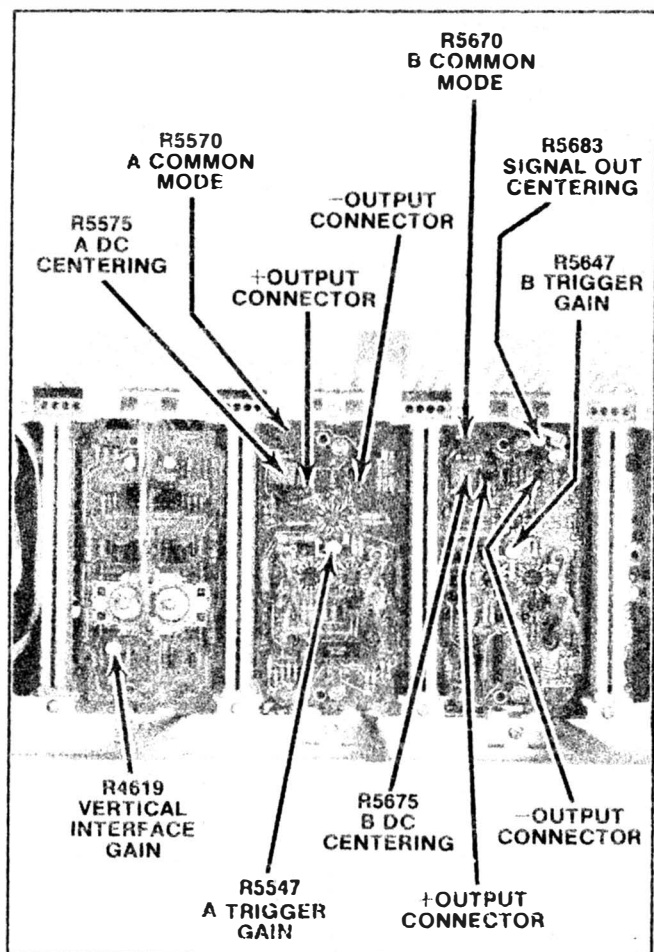

Fig. 5-4. Location of interface and trigger system adjustments (A and B Trigger Selector circuit boards.)
g. Adjust—A DC Centering, R5575, for a display dc level within 0.5 division (25 mV) of ground reference level in the LEFT, RIGHT, and ADD positions of the VERTICAL MODE switch. See Fig. 5-4 for adjustment location.
j. Connect the positive lead of the digital voltmeter to the plus (+) output connector on the A trigger board. See Fig. 5-4 for location.
m. Move the positive digital voltmeter lead from the plus output connector (+) to the minus (–) output connector on the A Trigger board. See Fig. 5-4 for location.
s. Adjust—A Trigger Gain, R5547, for a test oscilloscope display of six divisions of deflection between the center seven traces, within 0.3 division (300 mV within 15 mV). See Fig. 5-4 for adjustment location.
g. Adjust—B DC Centering, R5675, for a dc level within 0.5 division (25 mV) of ground reference level in the LEFT, RIGHT, and ADD positions of the VERTICAL MODE switch. See Fig. 5-4 for adjustment location.
j. Connect the positive lead of the digital voltmeter to the plus (+) output connector on the B Trigger board. See Fig. 5-4 for location.
m. Move the positive digital voltmeter lead from the plus output connector (+) to the minus (-) output connector on the B Trigger board. (see Fig. 5-4 for location).